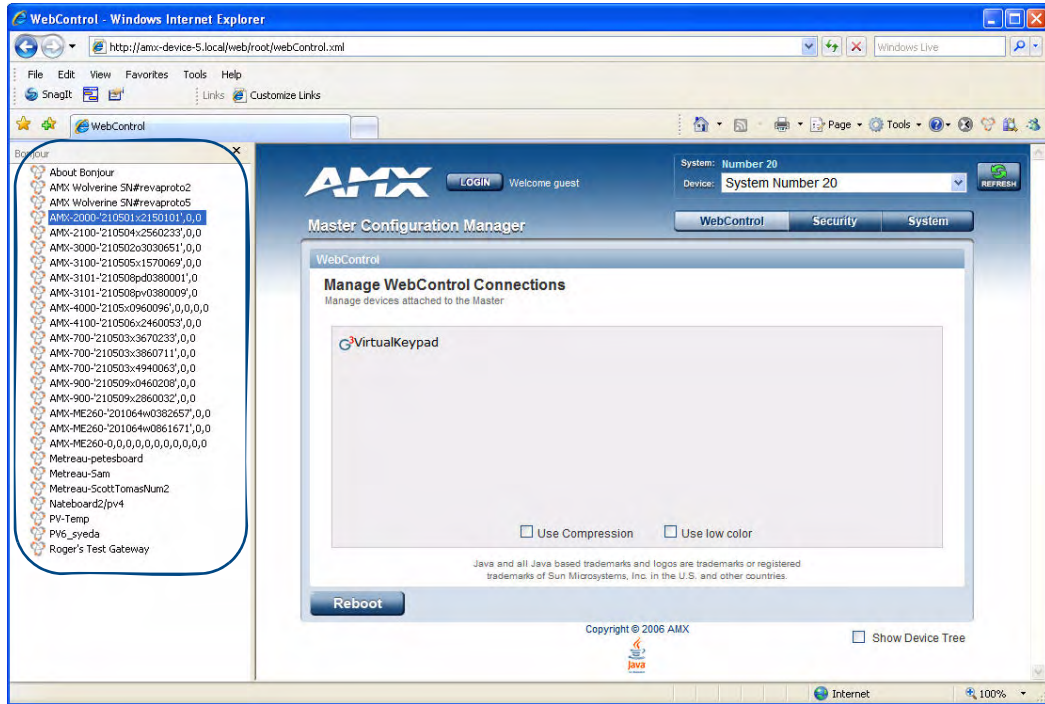

FIG. 1 Internet Explorer with Bonjour plug-in
2. Once power is applied to the device, the Bonjour plugin displays the device in the list of devices as shown in FIG. 1: